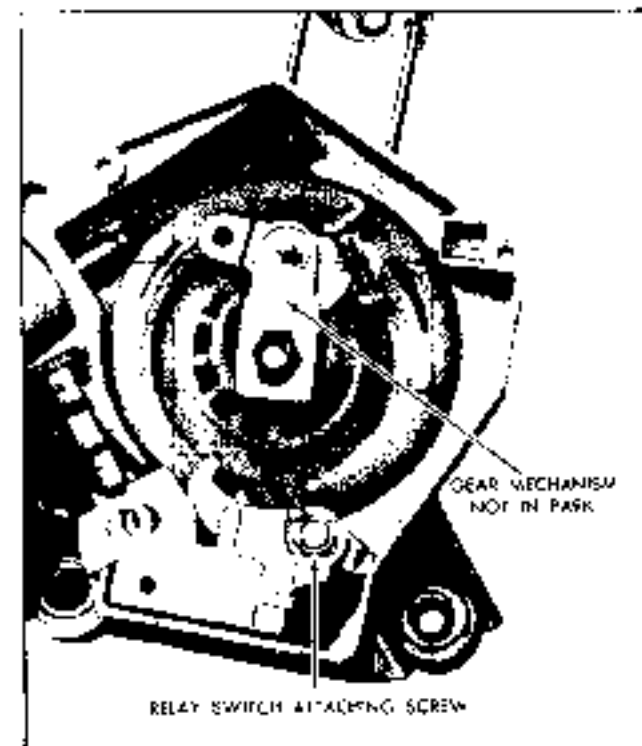

Fig. 12-34 Checking Latch Arm Switch—Parriac
2. If wiper gear drive pawl is in full park position remove gear. If wiper gear mechanism is not in park position (drive pawl away from latch arm (Fig. 12-34), proceed to step 3).
- a. Remove relay-switch attaching screw (Fig. 12-34) and carefully lift relay-switch out of gear box.
6. Install relay-switch mounting screw (Fig. 12-34).